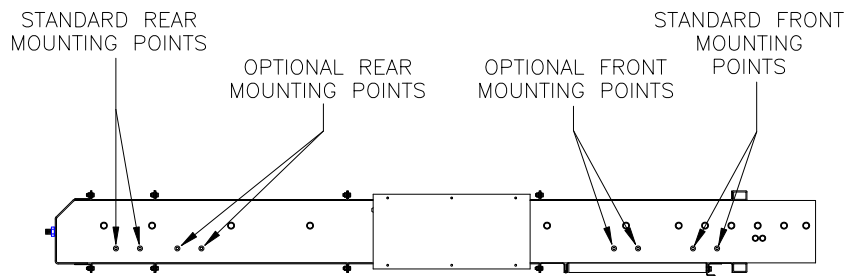

FIGURE 2-1: LIFT MOUNTING POINTS
- Refer to **Figure 2-1**. The mounted weight of lift is received at eight standard attachment points (four on each side of enclosure). There is a 5/16-18 threaded insert at each point.